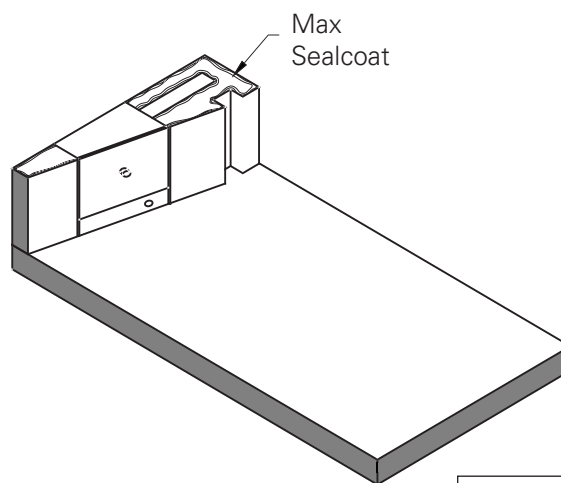

FIGURE 23
5. Mortar all flat areas of valve box to all areas of side wall and base plate. Look for some mortar to squeeze out along the joints of all contact surfaces as a sign that the joint is thoroughly sealed with the approved mortar. Set as first course of side wall on base plate and mortar in place. **(Figure 23)**